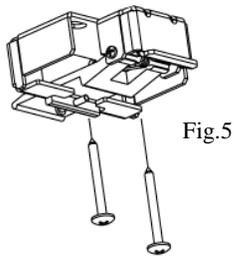

Fig.5
1. Determine the installation location and measure and mark the (L) distance between the two holes on each bracket (see figure 5 and 6). Make sure the brackets are leveled.